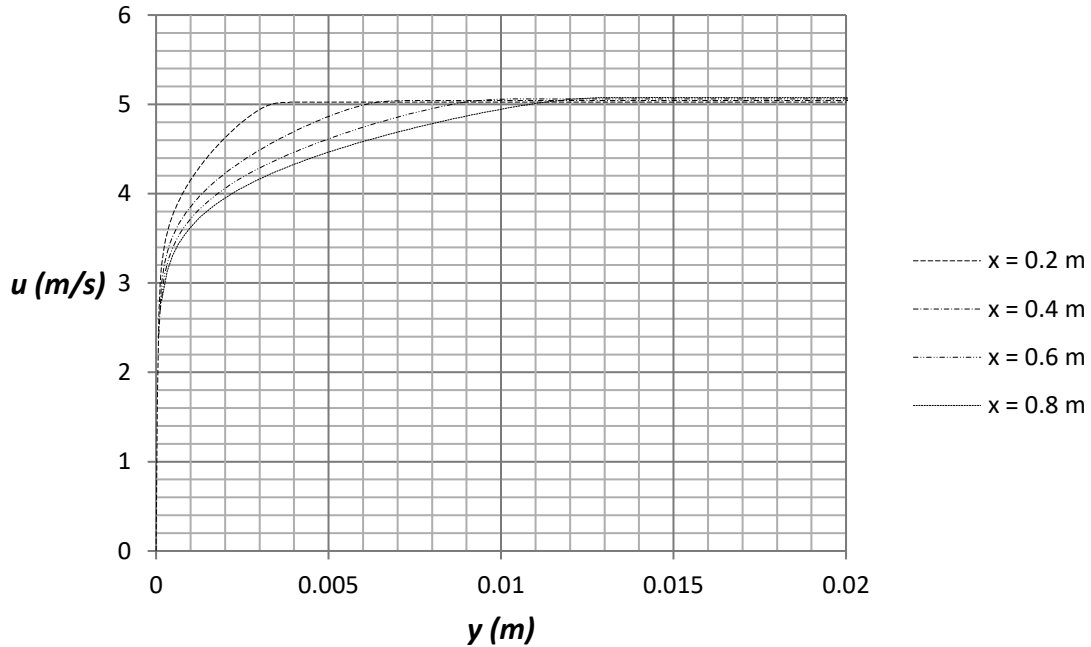

Figure 2.30a) Comparison of turbulent boundary layers at  $Re_x = 10^6 - 4.04 \cdot 10^6$
30. Place the file “**graph 2.30a)**” on the desktop. Repeat step **24** and choose the sketch **x = 0.2, 0.4, 0.6, 0.8 m** and check the box for **Velocity (X)**. Rename the xy-plot to **Turbulent Velocity Boundary Layer**. An Excel file will open with a graph of the streamwise velocity component versus the wall normal coordinate, see figure 2.30a). We see that the boundary layer thickness is much higher than the corresponding laminar flow case. This is related to higher Reynolds number at the same streamwise positions as in the laminar case. The higher Reynolds numbers are due to the selection of water as the fluid instead of air that has a much higher value of kinematic viscosity than water.
As an example, the turbulent boundary layer thickness from figure 2.30a) is 3.16 mm at  $x = 0.2$  m which can be compared with a value of 4.45 mm from equation (2.4), see table 2.2.
- 2.6 Determine the displacement thickness, momentum thickness and shape factor for the turbulent boundary layers in figure 2.30a) and determine the percent differences as compared with empirical data.